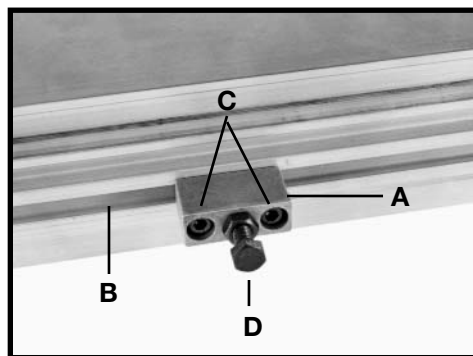

Fig. 20
1. Slide pattern support bracket (A) Fig. 20 into bottom channel of duplicator rail (B) and tighten two screws (C).
2. Thread a M8 x 40mm hex head screw (D) with M8 hex nut into face of pattern support bracket (A). Adjustments will be made later.